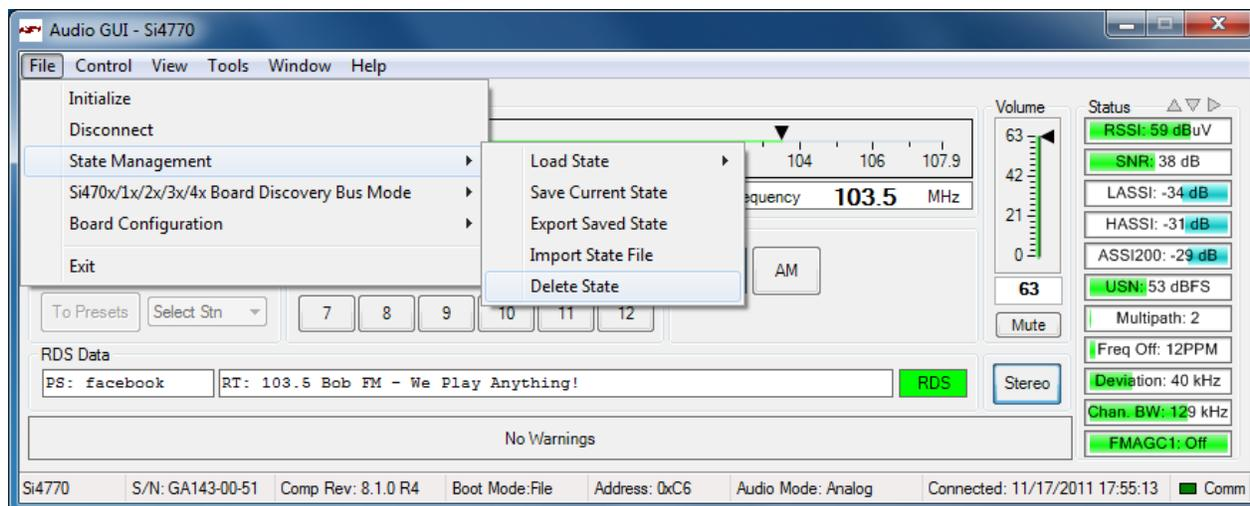

Figure 14. Delete Configuration State
1. Go to File State Management → Delete State as shown in Figure 14.